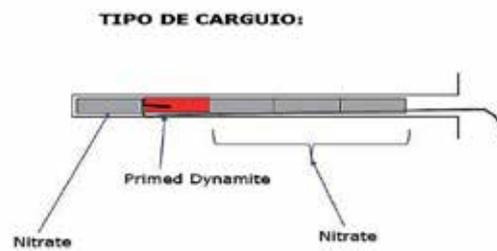

Figure 7: Blast 2: drilling and charging configuration.
- Blast n.2: drilling diagram based on rational methods studied by the contracted consulting firm, however, employing the same tools and explosive agents typically used in the areas in Blast 1. Shown in **Figure 7**.